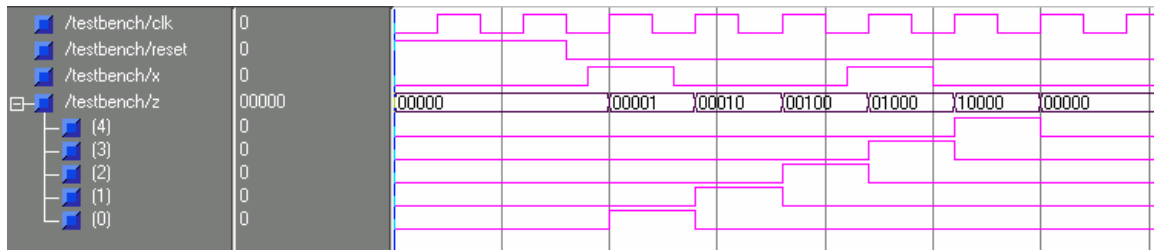

Figure 7: Simulation Waveform
3. Verify the operation of the sequence detector by looking at the input and output signals in the **Wave** window (figure 7) from the simulator.